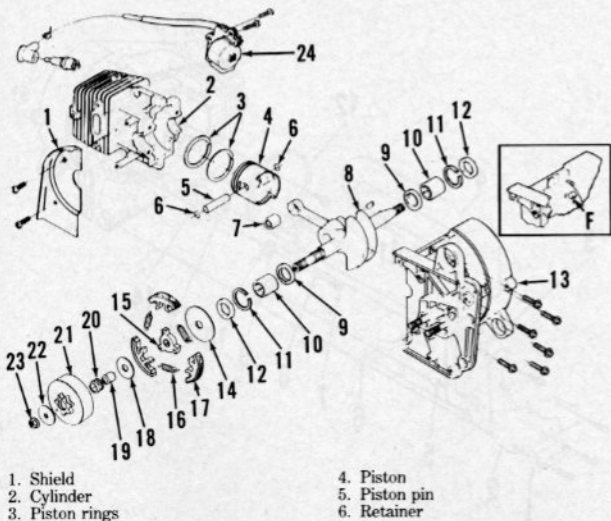

Fig. HL324—Exploded view of engine and clutch assemblies. Pulse fitting (F) is connected to oil pump pulse hose.
CYLINDER, PISTON, PIN AND RINGS. Cylinder may be removed after unscrewing socket head cap screws in bottom of crankcase (13—Fig. HL324). Be careful when removing cylinder as crankshaft assembly will be loose in crankcase. Care should be taken not to scratch or nick mating surfaces of cylinder and crankcase.
CLUTCH. Refer to Fig. HL324 for exploded view of shoe type clutch used on all models. Clutch hub (15) has left-hand threads and is removed by unscrewing clockwise.